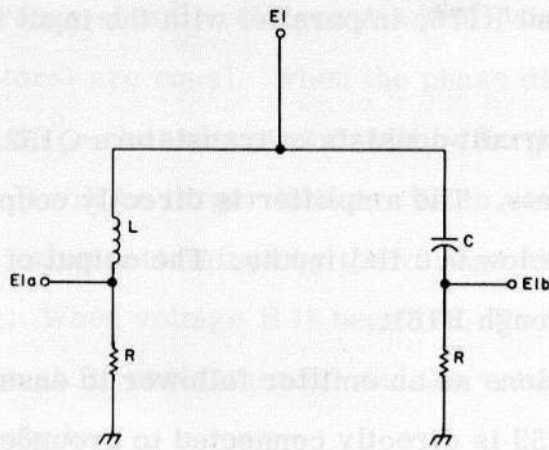

Figure 4-10. Phase Shift Network, Simplified Schematic Diagram
(2) Phase Shift Network. (fig. 4-10)- This circuit is designed to maintain the phase difference between E1A and E1B at exactly 90° at all frequencies. The voltages are equal only at the mean frequency, and will drop as much as half this value at the extreme frequencies, but this does not affect circuit operation. The impedance of the circuit is ohmic and equal to R at all frequencies. In the actual circuit, R is